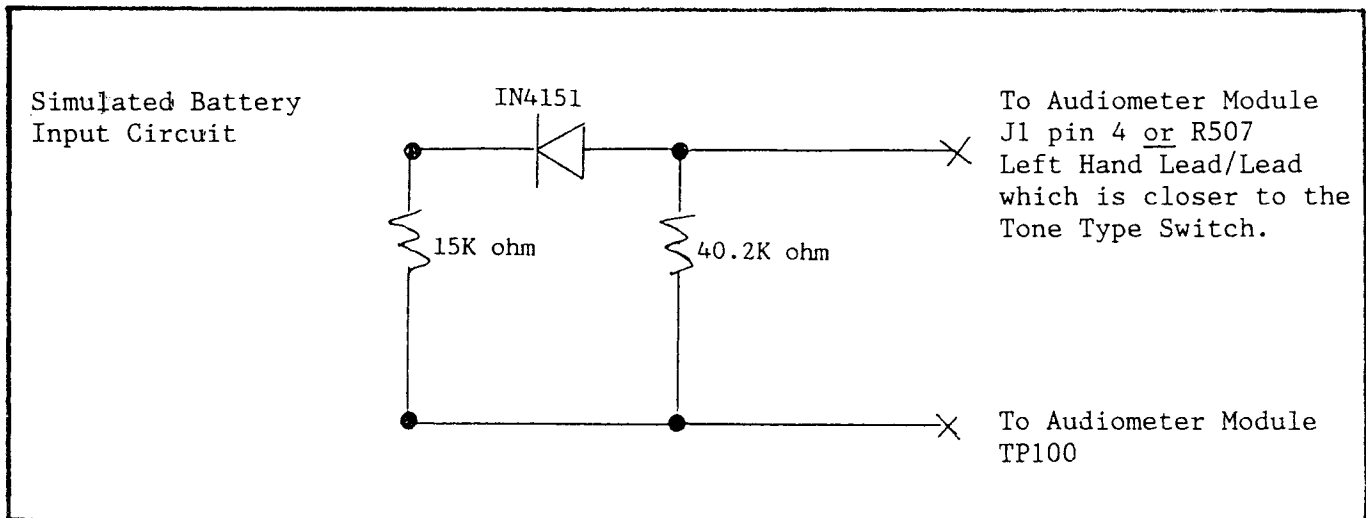

Figure 4-3: BATTERY SIMULATOR
In order to calibrate using a DC voltage supply, the BAT/LINE circuit must indicate BAT, simulating that the GSI 17 is being operated by battery power. This can be performed using the Resistor Diode combination shown in Figure 4-3.
3. Connect simulated battery input circuit to Audiometer Module as indicated in Figure 4-3.